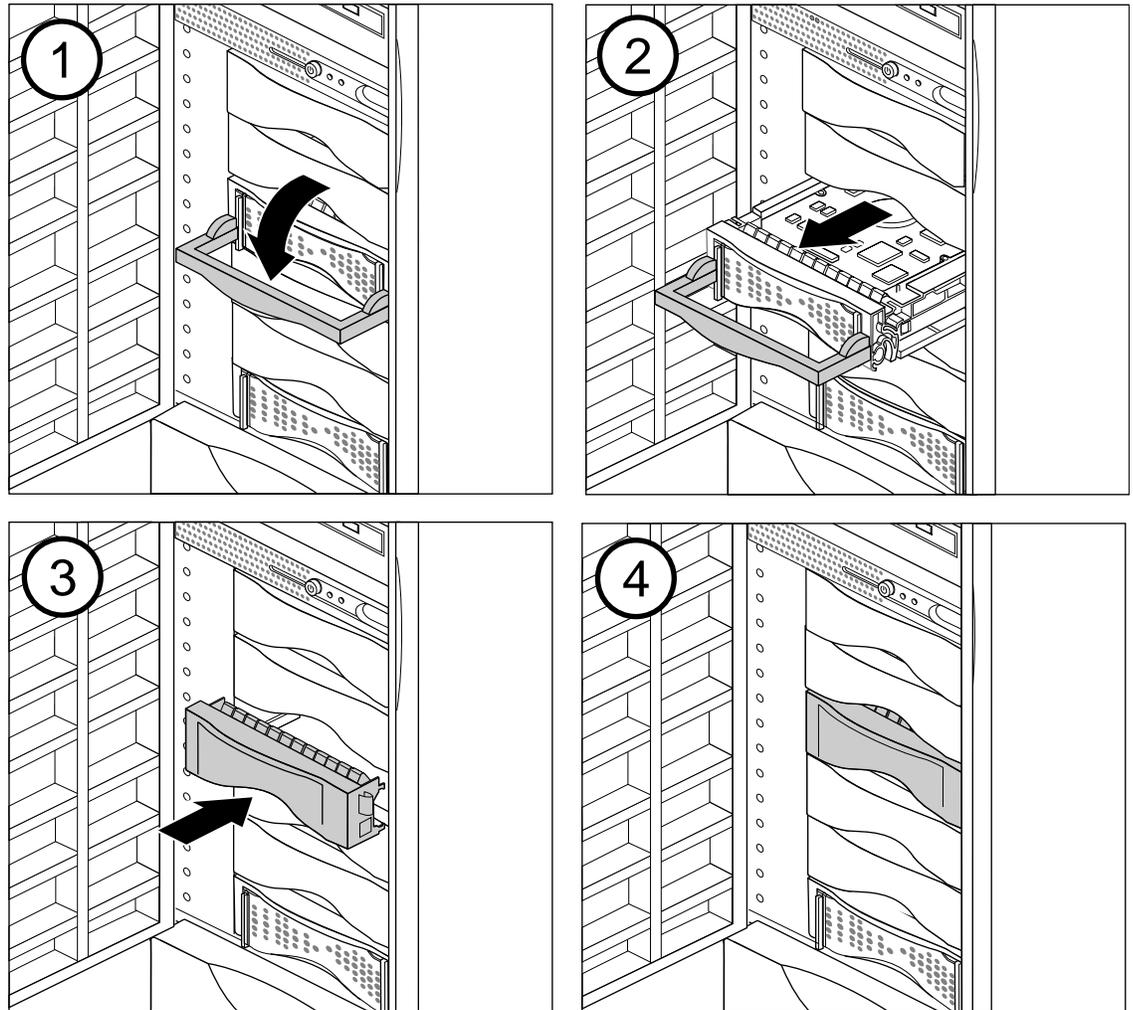

Figure 6-18 Removing a 3.5-Inch Drive From an Origin200 Server
3. Remove the drive, as shown in Figure 6-18.
4. If you are not replacing the drive with another peripheral, cover the open slot with a plastic blanking plate, as shown in Figure 6-18.